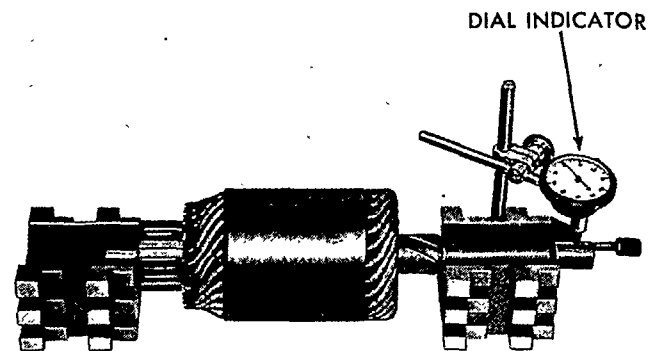

Figure 38
4. Inspect the armature shaft for distortion. Check the armature shaft runout as shown in Figure 38. Install a new armature if the runout is greater than that specified on page 71, or if the shaft is badly worn.